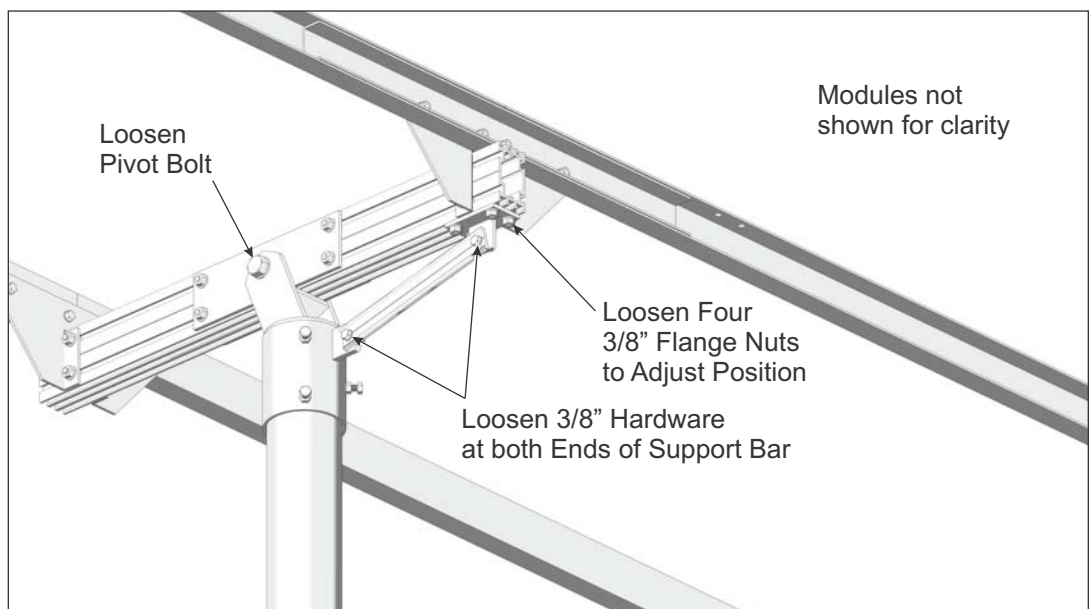

Figure 6-1: Adjusting Tilt Angle
- A. While one person holds the south edge of rack, the other loosens the Pivot Bolt, the 3/8" Flange Nuts securing the Mounting Tab to the Strongback, and the 3/8" hardware at both ends of the Support Bar at the Support Bar Mounting Tab of the Strongback and the Pivot Tab of the Mounting Sleeve. (See Figure 6-1)